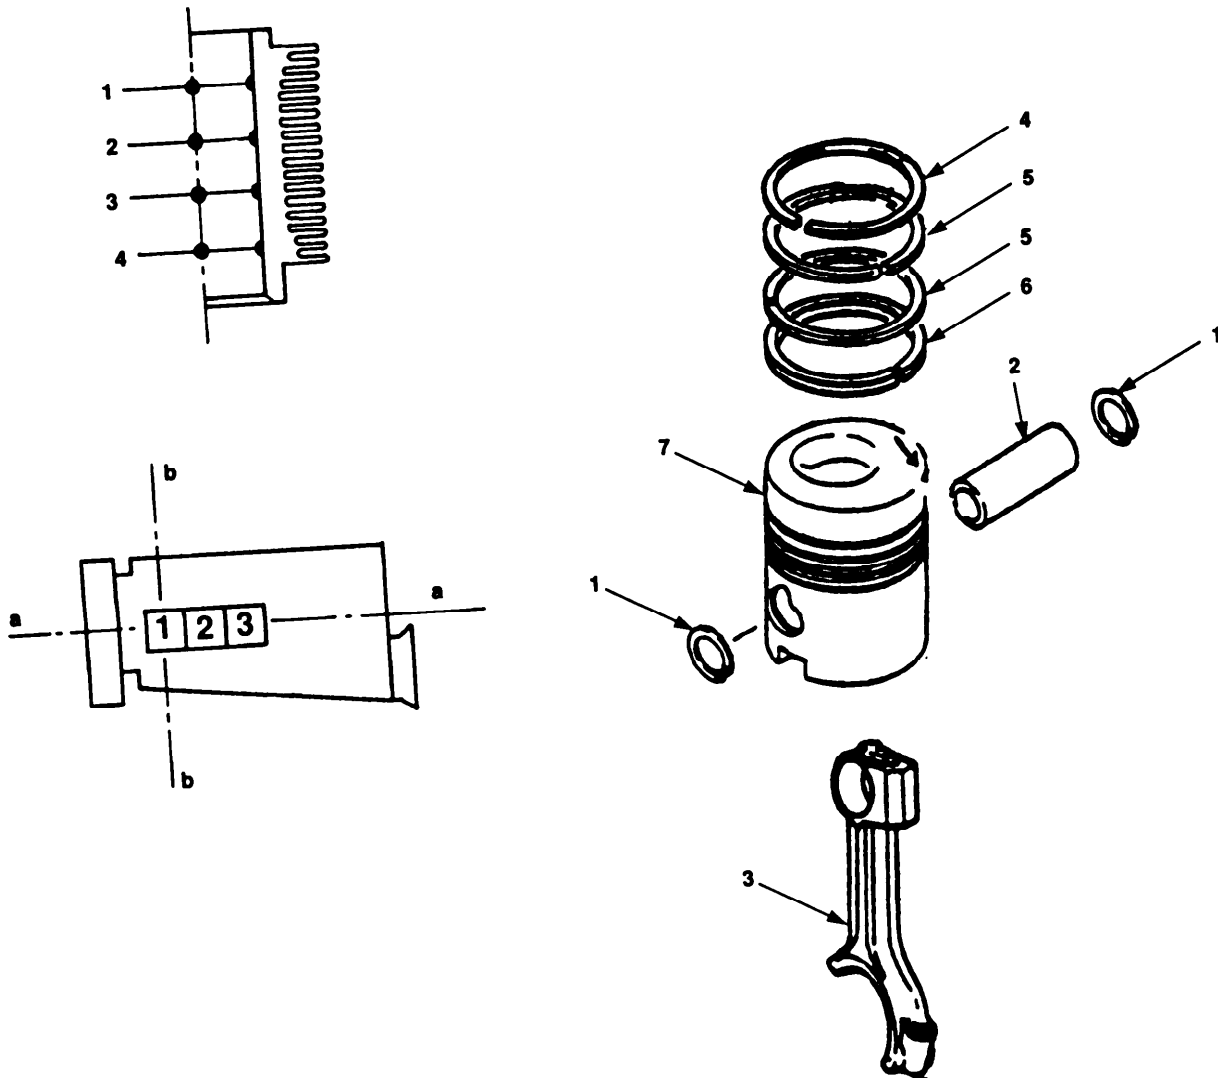

Figure 6-16. Piston Disassembly.
- a. Remove retaining rings (figure 6-16, 1) and withdraw piston pin (2).
- b. Remove piston and rings from connecting rod (3).
- c. Using piston-ring expander, remove trapezoidal ring (4) and two taper piston rings (5).
- d. open and remove oil control ring (6) from piston (7).
- e. Install expander spring for bevelled scraper ring in bottom groove on piston (7).
- a. Press piston pin (2) into piston bosses and small end of connecting rod (3).
- b. Install second retaining ring (1) to secure piston pin (2).
- (1) Using inside micrometer, gauge cylinder bore at levels 1 to 4 of engine center line "a" as well as cross-line "b", see figure 6-16.
- (2) Readings should be 3.937 inches (100 mm). If not within plus 0.0079 inch (0.2 mm) replace parts concerned.